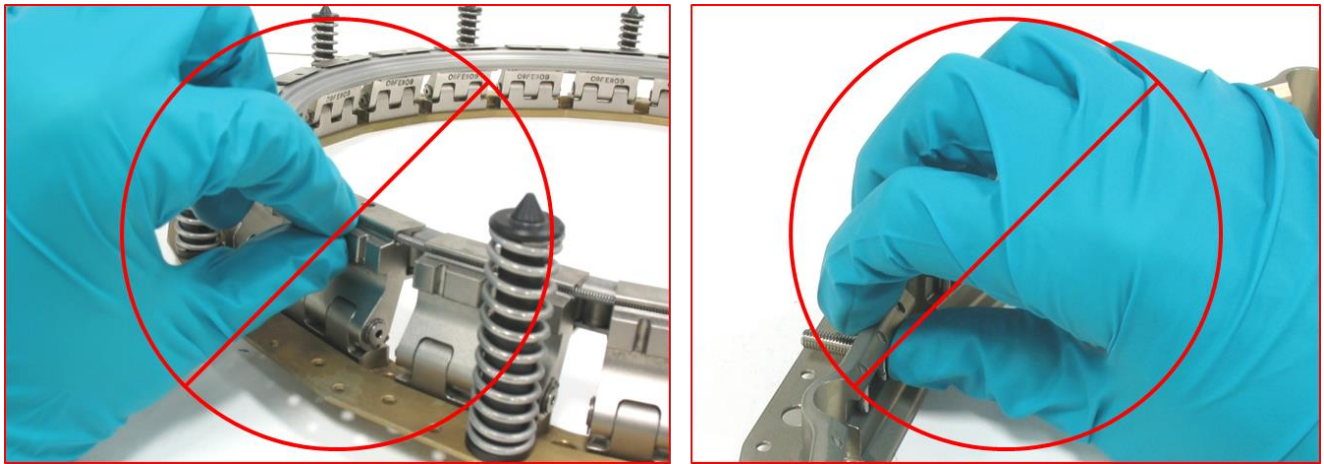

Figure 6: Do NOT touch leaf lip or corresponding groove in Upper Ring.
1. Do not touch the portion of the Hinged Leaves that engage the Upper Ring. Do not wipe off the grease during cleaning. See Figure 6.
1. Do not touch the leaf groove. Do not remove grease from the groove when cleaning. See Figure 6.